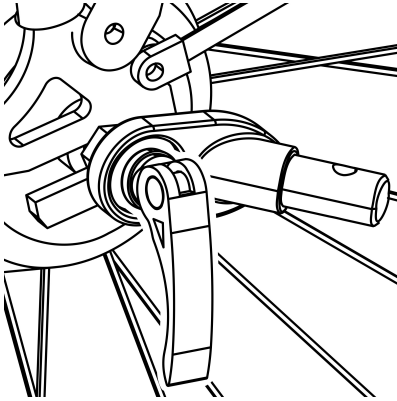

Figure 10
1. Quick release Axle: Remove the quick release from the left side of bike' s rear axle. Install the hitch between the quick release and frame. Tighten the quick release following the bike manufacturer' s manual. Hitch can remain on the bike when the trailer is removed (Figure 10).